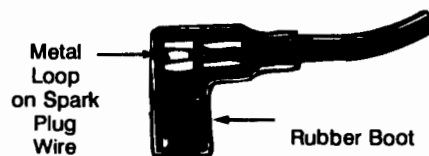

Figure 15
- Attach spark plug wire to spark plug. If unit is equipped with a rubber boot over the end of the spark plug wire, make certain the metal loop on the end of the spark plug wire (inside the rubber boot) is fastened securely over the metal tip on the spark plug. See figure 15.